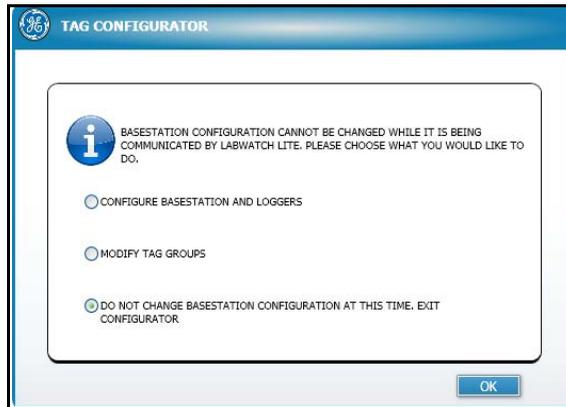

Figure 134: Tag Configurator Window
2. Click on the **Configurations** tab and then on the **Tag/Group Config** option. The Tag Configurator window (Figure 134 below) opens.